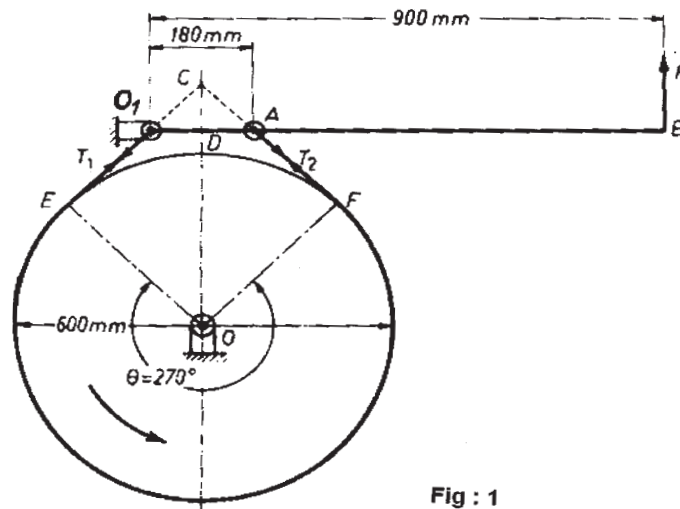

Fig : 1
- b) A simple band brake applied on a drum of diameter 600 mm is shown in fig 1. The drum is rotating at 250 rpm. The angle of lap of the band on the drum is 270° . The co-efficient of friction between the drum & the steel band line with frictional material is 0.25. one end of the band is fastened to a fixed pin (fulcrum) and the other end to the brake lever arm at a distance of 150 mm from the fulcrum. The length of lever arm is 700 mm. the lever arm is so placed that the diameter that bisects the angle of lap is perpendicular to the lever arm. Determine: [10]